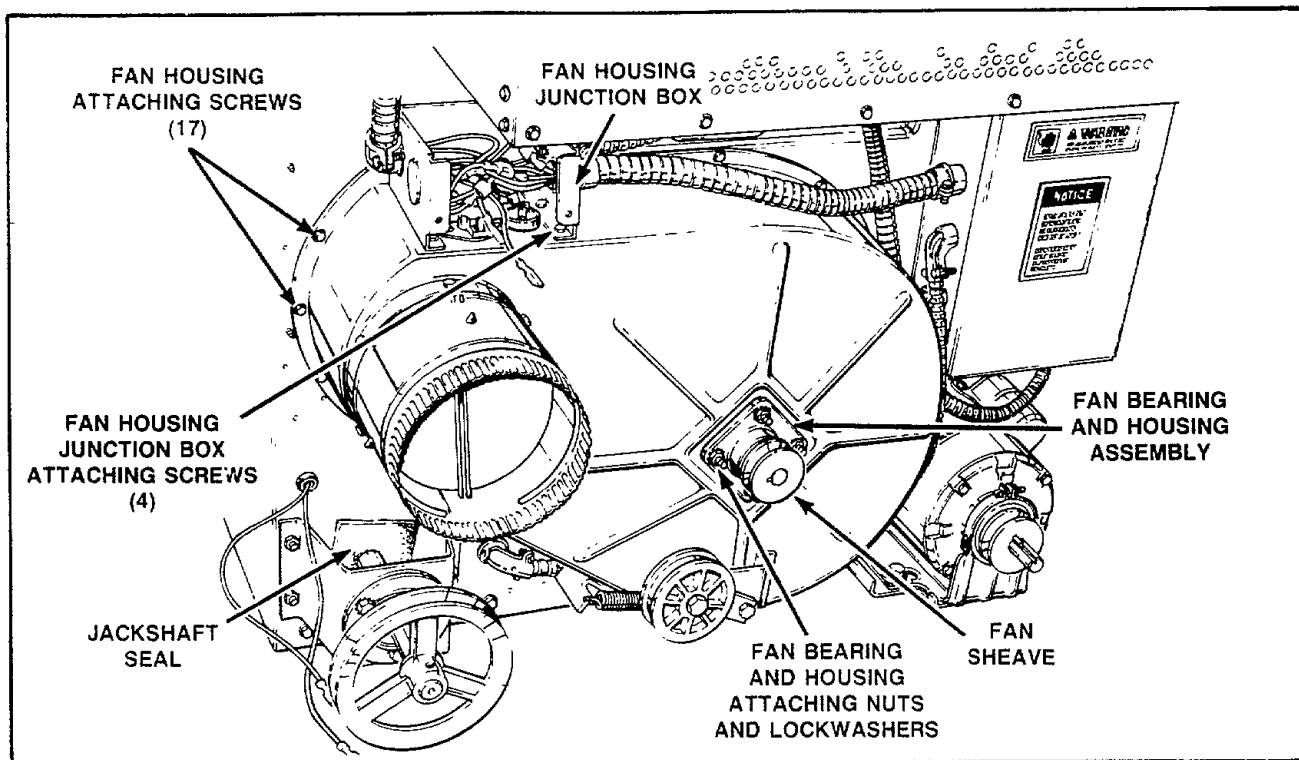

Figure 30
- d. Remove screws from fan housing junction box cover and remove cover, *Figure 30.*
- g. Remove 17 screws holding fan housing to cabinet back. *Figure 30.*